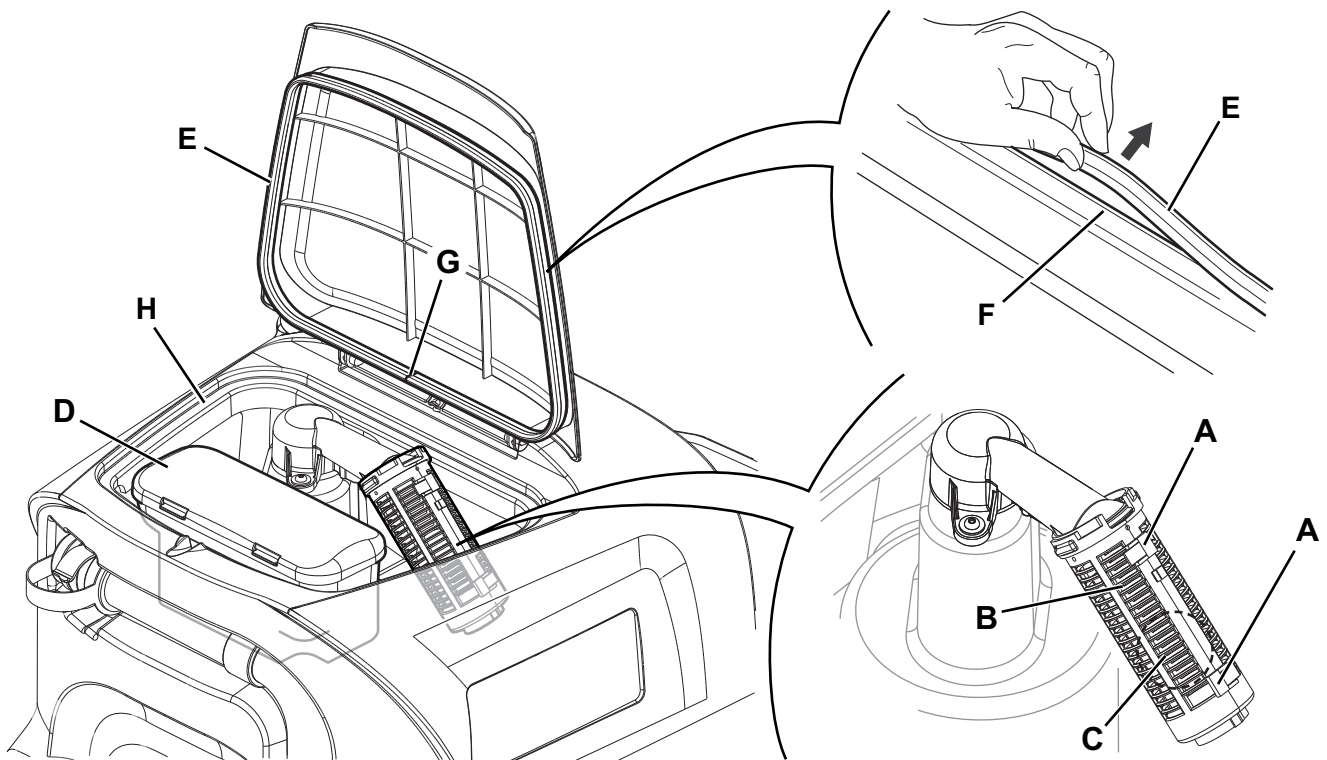

Figure 12
2. Ensure that the machine is off and the user key (52) has been removed.
3. Raise the cover (18).
4. Wash the inside of the tank (17) and the cover with clean water.
5. Drain the water in the tank through the hose (26).
6. Clean the vacuum grid (28), release the fasteners (A, Fig. 12), open the grid (B) and recover the float (C) then clean it carefully and reinstall it.
7. Remove the debris collection tank (D) and open its cover, then clean it carefully and reinstall it on the vacuum hose.
8. Check the condition of the tank cover gasket (E).